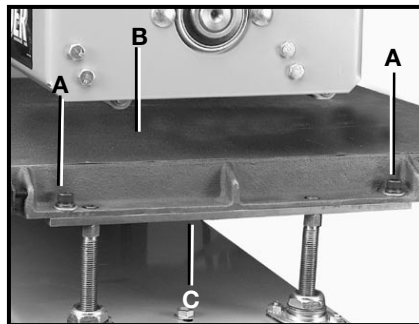

Fig. 6
5. Remove the two (2) screws, lock washers, (and flat washers if your unit has them) (A) Fig. 6, which secure sanding table (B) to table mounts (C). **IMPORTANT: Loosen, but do not remove the two (2) screws which secure other side of table.**